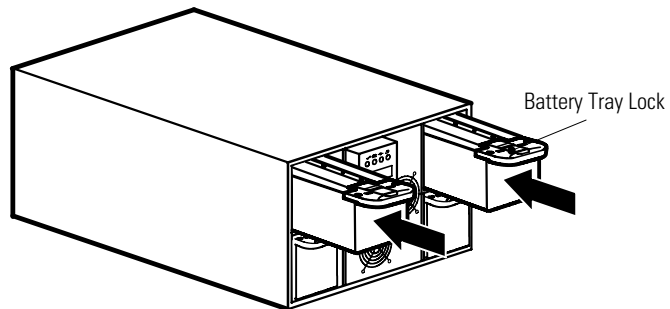

Figure 5. Installing the Battery Trays
1. Verify that the output circuit breakers on the UPS rear panel are in the OFF (O) position.
2. Slide the battery trays into the cabinet (see Figure 5). Push each tray in until the battery tray lock on the handle catches to lock the tray in place.